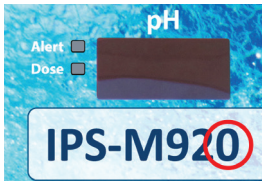

Figure 5: Hidden button
7. Hidden Features - See Figure 5.